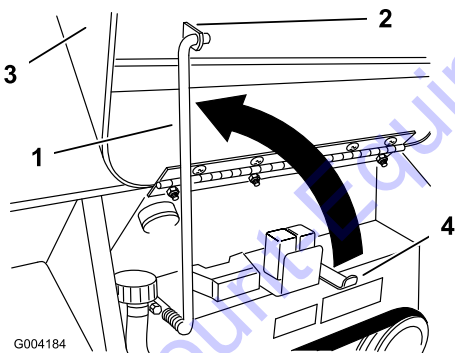

Figure 24
4. Swing the prop rod up and secure it in the bracket on the hood (Figure 24).